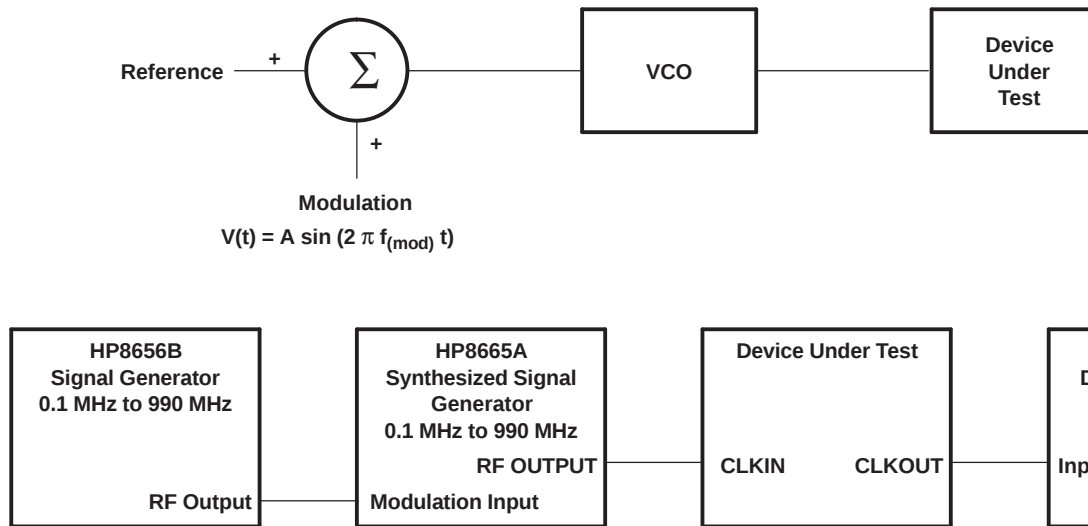

Figure 8. Input Clock Jitter Test
| Δt c(o) Cycle time, change in output clock period (4)           | t c = 15.38 + 0.75 sin (2π500E3t) ± 0.05 ns, See Figure 8            |     | ±80                 |     | ps   |
|                                                                                       | t c = 15.38 + 0.75 sin (2π3E6t) ± 0.05 ns, See Figure 8              |     | ±300                |     |      |